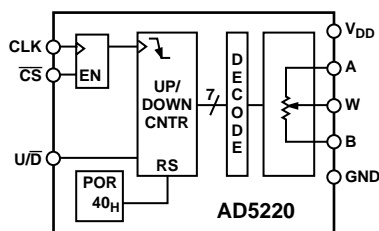

Figure 35. Block Diagram
The AD5220 contains a three-wire serial input interface. The three inputs are clock (CLK),  $\overline{CS}$  and UP/DOWN ( $U/\overline{D}$ ). The negative-edge sensitive CLK input requires clean transitions to avoid clocking multiple pulses into the internal UP/DOWN counter register, see Figure 35. Standard logic families work well. If mechanical switches are used for product evaluation they should be debounced by a flip-flop or other suitable means. When  $\overline{CS}$  is taken active low the clock begins to increment or decrement the internal UP/DOWN counter dependent upon the state of the  $U/\overline{D}$  control pin. The UP/DOWN counter value (D) starts at 40H at system power ON. Each new CLK pulse will increment the value of the internal counter by one LSB until the full scale value of 3FH is reached as long as the  $U/\overline{D}$  pin is logic high. If the  $U/\overline{D}$  pin is taken to logic low the counter will count down stopping at code 00H (zero-scale). Additional clock pulses on the CLK pin are ignored when the wiper is at either the 00H position or the 3FH position.